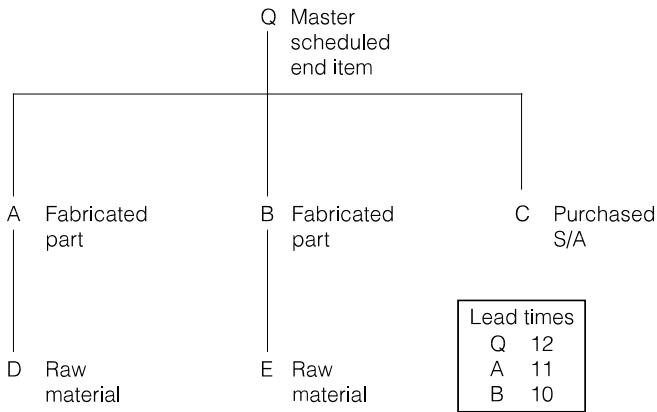

Figure 2-16. Bill of material for profile generation
Use the figures that follow to help you understand the basic operations in generating a resource profile. Figure 2-16 shows the bill of material for a simple item (Q) with two levels of components.
Figure 2-16 also shows the lead time (LTMAN) in the Item Balance file for the item and its manufactured components. Components A and B have second-level components D and E, respectively. Items D, E, and C are purchased items and have no routings.